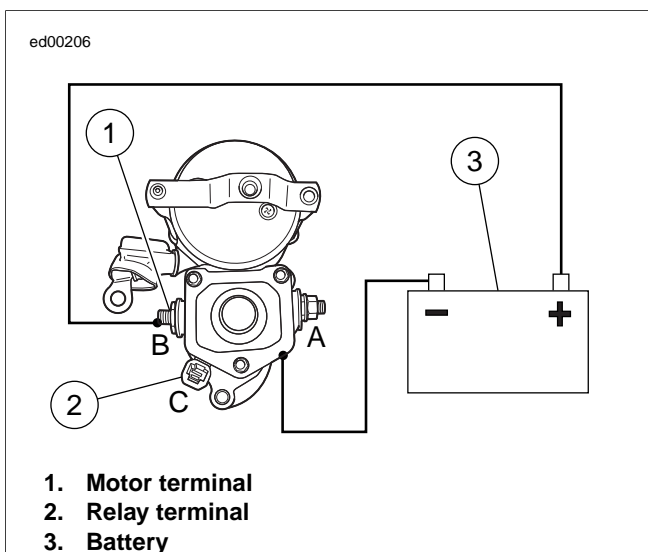

Figure 1-10. Return Test
1. See Figure 1-10. With test leads still connected in the manner specified at the end of 1.6 TESTING STARTER ON BENCH, Solenoid Hold-In Test, disconnect solenoid relay terminal/positive battery post test lead at either end.